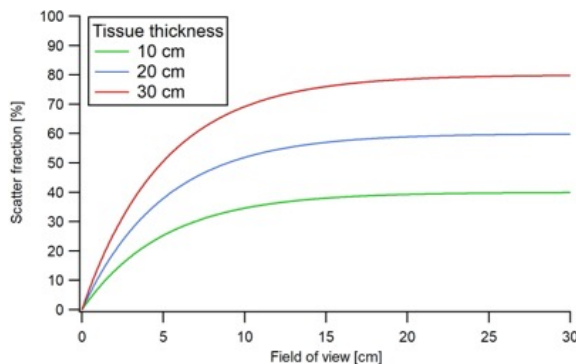

FIGURE 13
- / The amount of scatter detected in an image is characterised by the scatter-to-primary ratio (SPR) or the scatter fraction (SF), which is expressed as a percentage.
- / For a typical $30 \times 30 \text{ cm}^2$ abdominal irradiation in a 25-cm-thick patient, the SF is about 80% (Fig. 13).